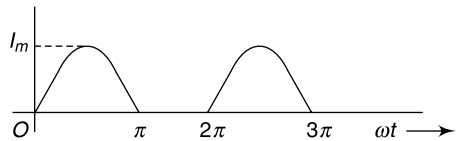

Fig. 5.5 Waveform of Ex. 5.6
5.6 Find the average and rms value of the wave form shown in Fig. 5.5.